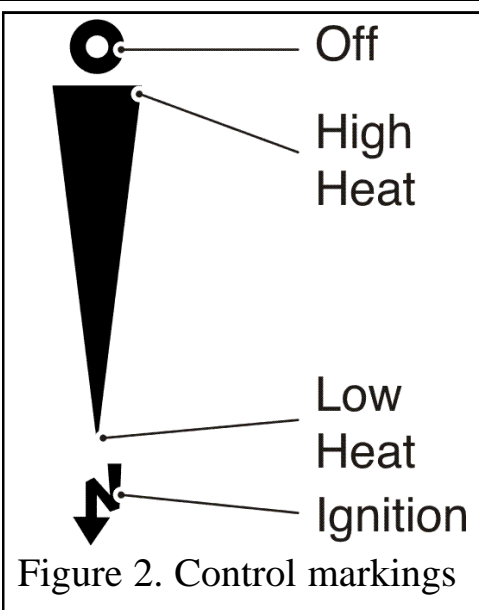

Figure 2. Control markings
The slide control is shown in figure 2.
3. If low heat is required, release the button. The button will automatically spring up to the low heat position shown in figure 2 (See note i below).
4. For a higher heat level slide the button upwards. The burner flames and heat output will gradually increase until the button reaches the high heat position shown in figure 2. When the button reaches the high heat position you will feel a check to its movement. **Do not slide the button above the high heat position unless you want to turn the fire off** (See note i below).